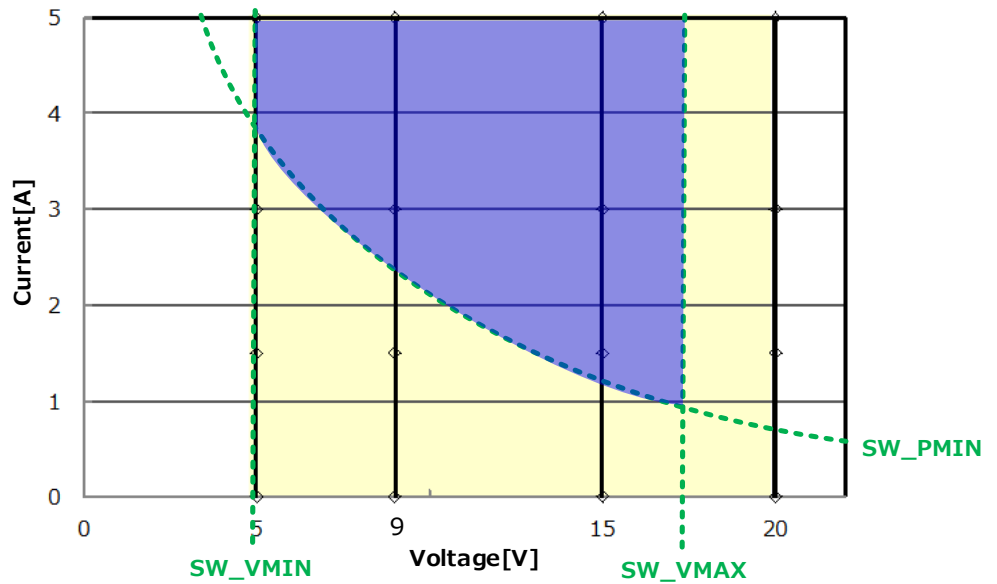

Figure 9. USB PD Contractable Range
3. Set SW_VMAX, SW_VMIN and SW_PMIN according to required PD contract. Please refer to Figure 9 for further information.
This EVK can set the range of USB PD contract automatically according to SW_VMAX, SW_VMIN, SW_PMIN DIP switch settings. The EVK can make a contract with a PD source that has a range within the “USB PD Contractable Range” shown in Figure 9. The EVK requires a power cycle to update the range assigned by SW_VMAX, SW_VMIN, and SW_PMIN. A power cycle occurs by both disconnecting from a Source device and losing power from VSRC5V. If there is no VSRC5V, only disconnecting from a Source device is required
Figure 9 shows the specific range by SW_VMAX, SW_VMIN, and SW_PMIN that allows USB PD Contract.
For example, if the EVK SW_VMAX is set to 12V and connected to the Source device specified in Figure 9, where the Source device does not have 12V as an option, then the contract with the EVK will be a PDO of 9V@3A.